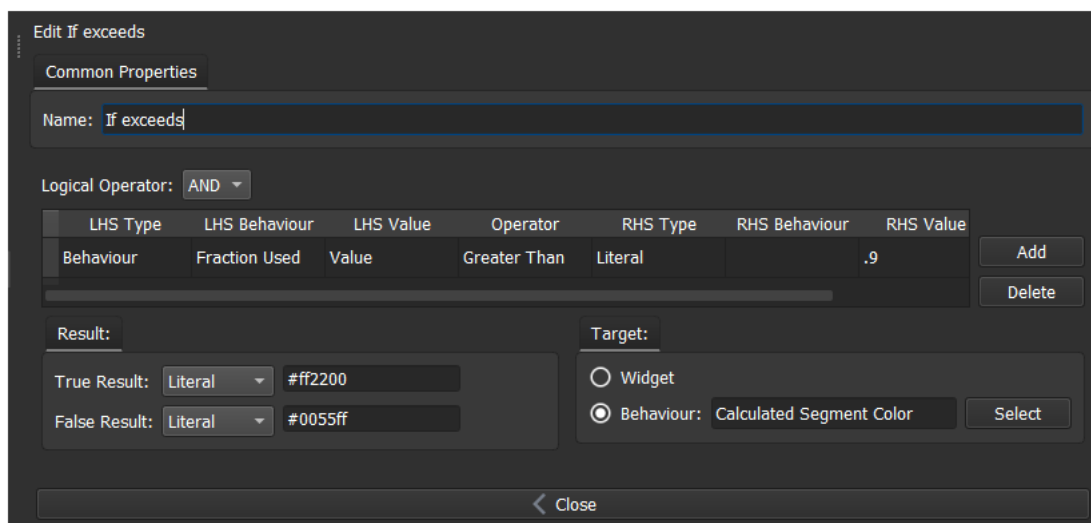

Fig. 3-21: Logic Binding Edit Screen
And double-click on it to show the **Logic** Binding edit screen. See Figure 3-21.
- 6 Configure the **Logic** Binding as shown in Figure 3-21.